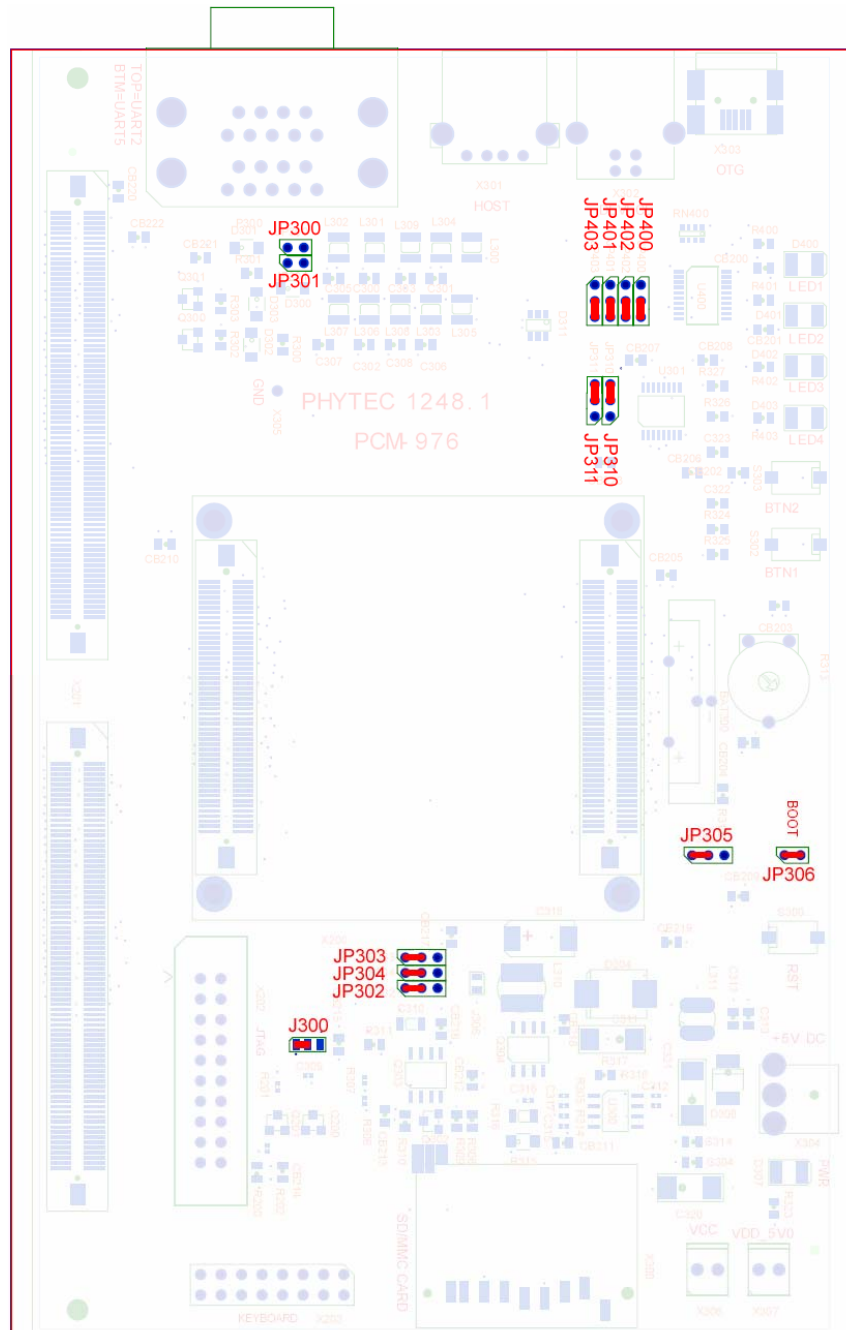

Figure 1: Default Jumper Settings of the phyCORE Carrier Board with phyCORE-LPC3180
- Ensure proper jumper settings on the phyCORE Carrier Board as shown in *Figure 1*.